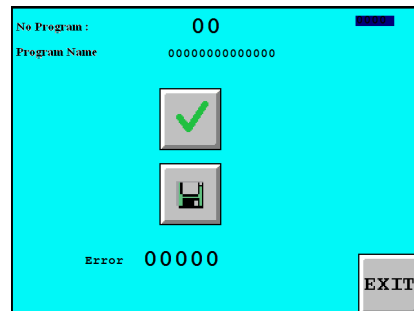

Fig.11
11.1.4 Press the button “COPY” . The screen as fig. 11 will appear